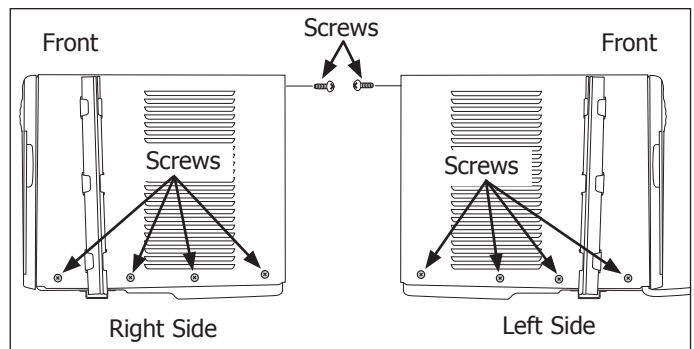

Figure 4-93.
3. Extract the screws from the cabinet wrapper/sleeve, then pull the left and right bottom edges away from the unit frame and lift the cabinet wrapper/sleeve off the unit. (See Figure 4-93)